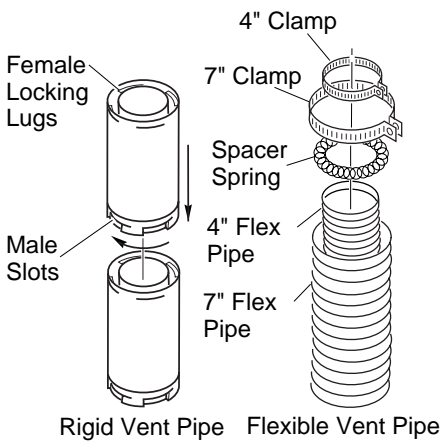

Figure 12 - Vent Pipe Connections
Twist-lock Procedure: The female ends of the pipes and fittings have four locking lugs (indentations). These lugs will slide straight into matching slots on the male ends of adjacent pipes and fittings. (All connections must be sealed with high temperature silicone sealant as specified in the second warning on page 7.) Push the pipe sections together and twist one section clockwise approximately one-quarter turn until the sections are fully locked. See Figure 12, page 9. *Note:* Horizontal runs of vent must be supported every three feet. Use wall straps for this purpose.
Flexible vent pipe must be installed with spacer springs every 12". See Figure 12, page 9. All connections must be clamped tightly and sealed with high temperature silicone sealant as specified in the second warning on page 7.
2. Assemble the desired lengths of pipe and elbows necessary to reach from the fireplace flue up through the firestop. All connections must be sealed with high temperature silicone sealant as specified in the second warning on page 7. Be sure all pipe and elbow connections are fully twist-locked (see Figure 12, page 9).